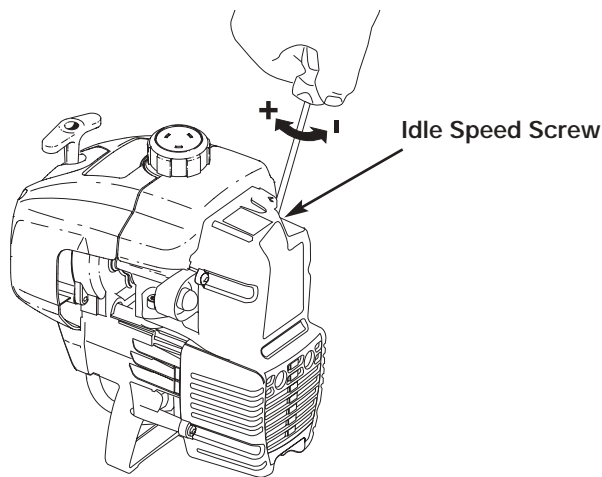

Fig. 43
The idle speed of the engine is adjustable through the air filter/muffler cover (Fig. 43).
2. Release the throttle trigger and let the engine idle. If the engine stops, insert a small phillips or flat blade screwdriver into the hole in the air filter/muffler cover (Fig. 43). Turn the idle speed screw in, **clockwise**, 1/8 of a turn at a time (as needed) until the engine idles smoothly.